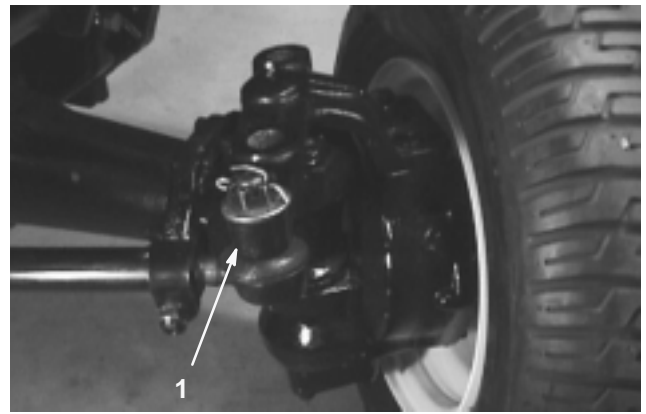

Figure 58
2. Loosen clamp securing ball joint to tie rod (Fig. 58).